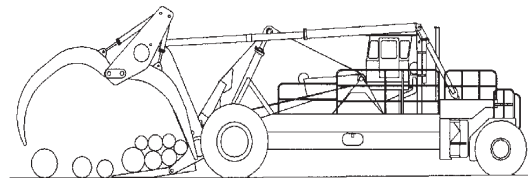

Figure 5-13
4. When retrieving spread logs and the last one is beyond the ends of the tines, extra reach can be gained by tilting the carriage forward. This places the holddown arms in a position to rake the logs onto the tines. The distance the top of the carriage extends forward is the extra reach gained at the tip of the holddown arms (See Figure 5-13).